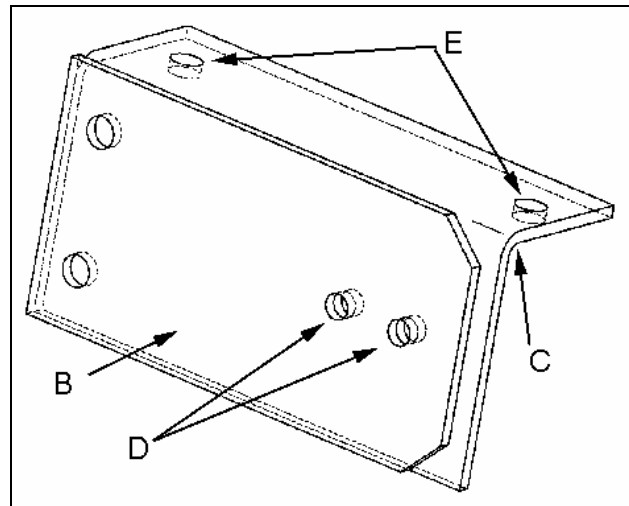

FIGURE 2 : H3 SERIES VEHICLES, B: BRACKET ON VEHICLE FRAME; C: # 219916 SUPPORT BRACKET
3. **H3 series vehicles**, install #219916 back-up alarm support bracket included in the kit to the existing bracket installed on vehicle frame using holes indicated with letter "D" in figure 2, then install Ecco back-up alarm using holes indicated with letter "E" so that the sound is directed downwards. Plug back-up alarm electrical connector to harness.